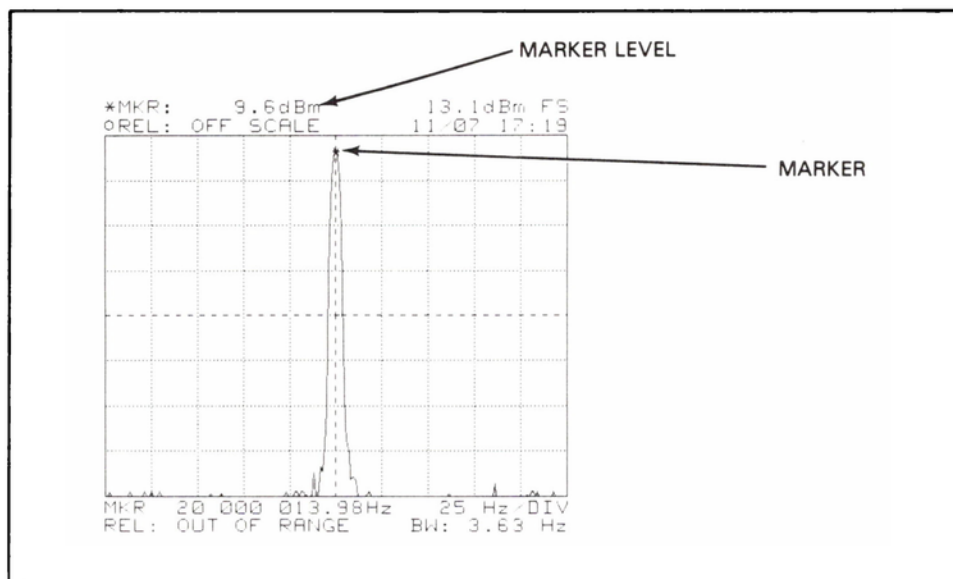

Figure 7-2. 20 MHz Signal Level
- f. Measure the level of the 20 MHz signal displayed on the -hp- 3582A (See Figure 7-2). This level should be within ± 0.9 dB of that measured in step d. Record the signal level on the Performance Test Record card.